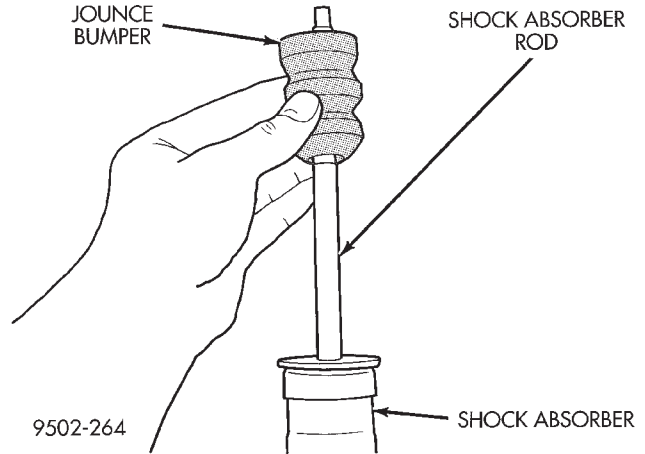

Fig. 76 Jounce Bumper Installation
(8) Install the jounce bumper on the shock rod (Fig. 76). Install the jounce bumper with the pointed end pointing downward.